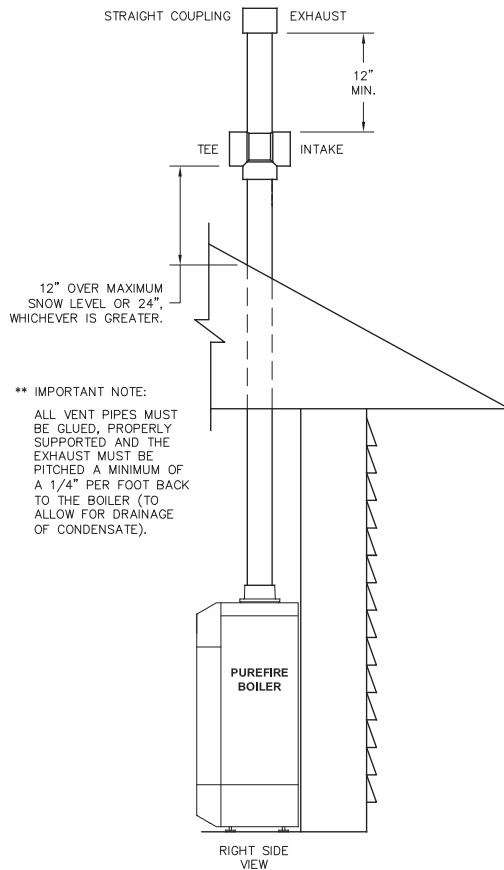

Figure 3.7: Standard Vertical Vent Installation
- Figure 3.7 shows the approved venting configuration for vertical venting using the standard fittings supplied.
- g. Refer to Figures 3.7 & 3.8 for vertical venting options using PVC or CPVC pipe.